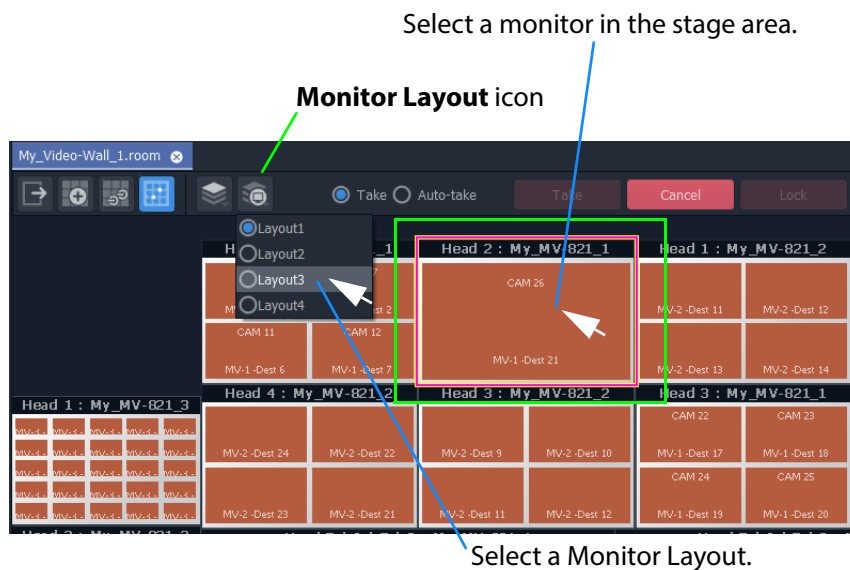

Fig. 16-85: Select Alternate Monitor Layout
- 1 Select a monitor in the **X/Y Routing** screen stage area. (See Figure 16-85.)
- 2 Click on the **Monitor Layout** icon in the **Room Editor** tool bar and select the required **Monitor Layout** to show. (See Figure 16-85.)